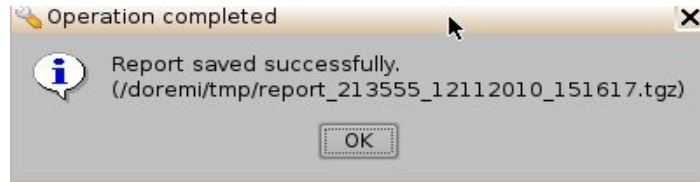

Figure 4: Confirmation Message
- When the generation is complete, a confirmation message providing the complete report file path is displayed on the screen as shown below: Click OK to proceed (Figure 4).